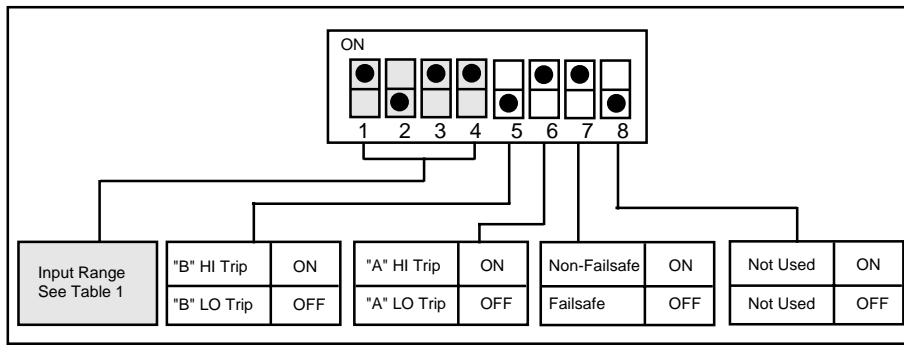

Figure 4: DRG-AR-RTD Input Range/Function Selection (SW1) Factory Default Settings
3. Set position 5 and 6 of input range switch "SW1" to ON for a HI trip setpoint or OFF for a LO trip setpoint (Figure 4).